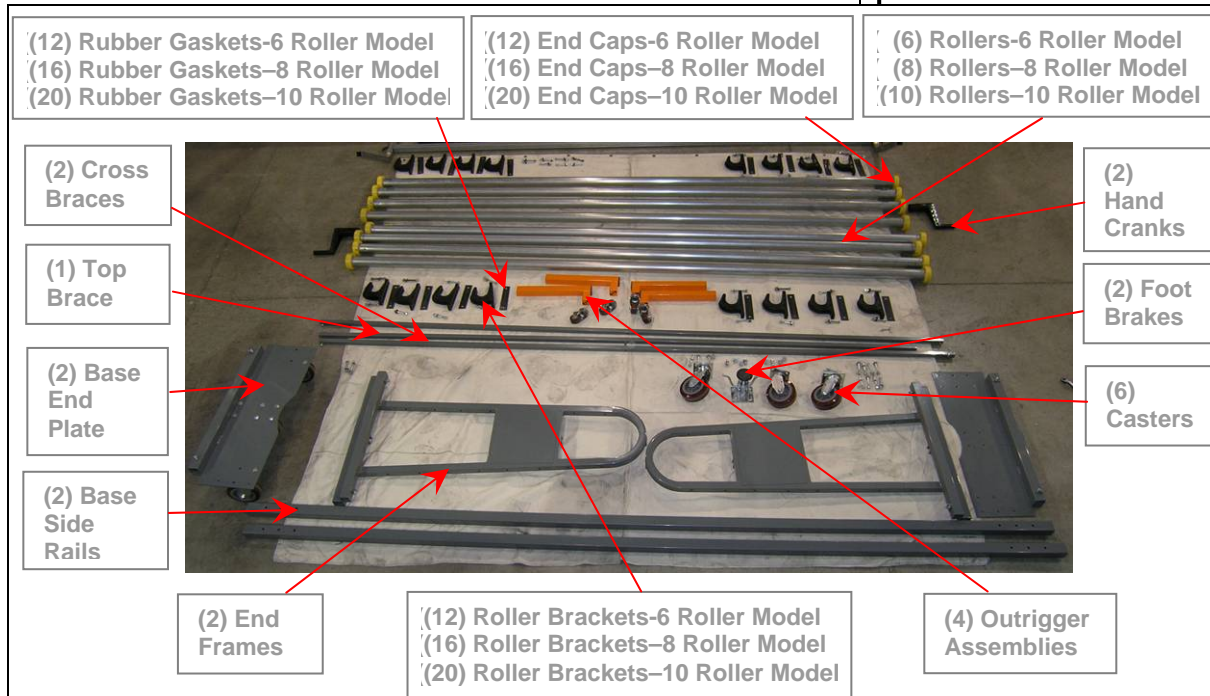

Fig 1: LAYOUT COMPONENTS ON FLOOR SIMILAR TO THE ABOVE ARRANGEMENT.
- 1.3 UNPACK COMPONENTS AND LAYOUT PARTS ON FLOOR IN SIMILAR ARRANGEMENT AS SHOWN IN FIG. 1 BEFORE STARTING ASSEMBLY.